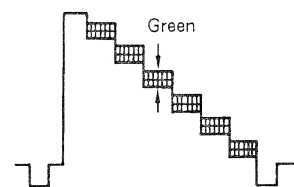

Fig. 5-1
2. Connect an oscilloscope to the Y signal output of the comb type filter (the emitter of Q367), and adjust RV301 (GAIN) and L303 (PHASE) taking tracking, so as the chroma component of the waveform to becomes minimum. (Fig. 5-1)